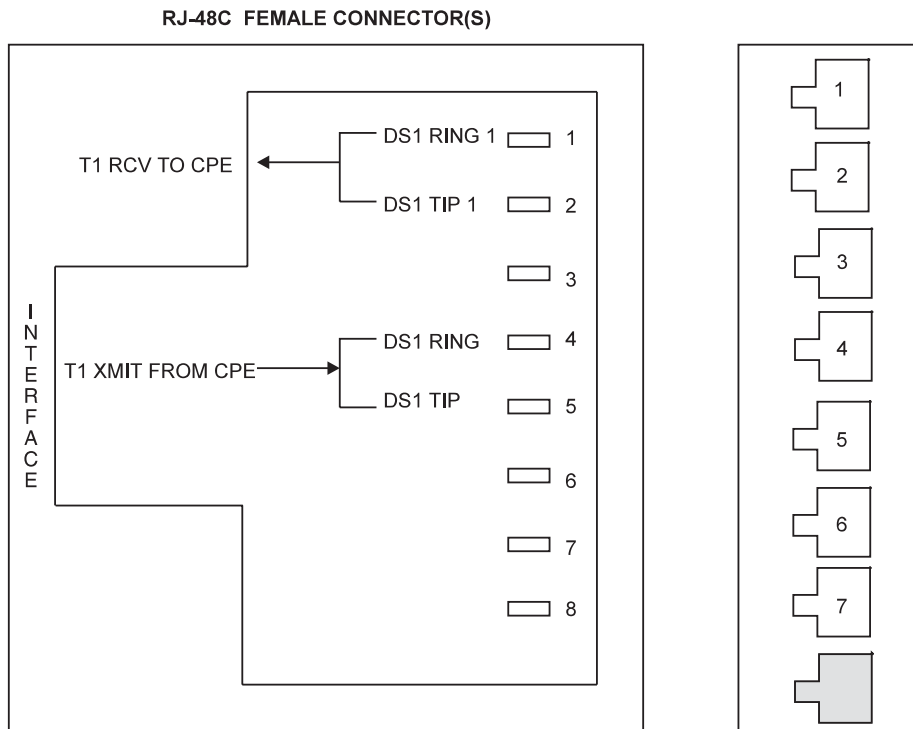

Figure 7. List 1 RJ-48C Pin Assignment. The RJ-48C jacks are located on the left side of List 1 enclosure.
- ◆ **RJ-48C:** For List 1 enclosures, connect the DS1 leads to the RJ-48C jacks (see Figure 7) located on the left side of the HRE-427.